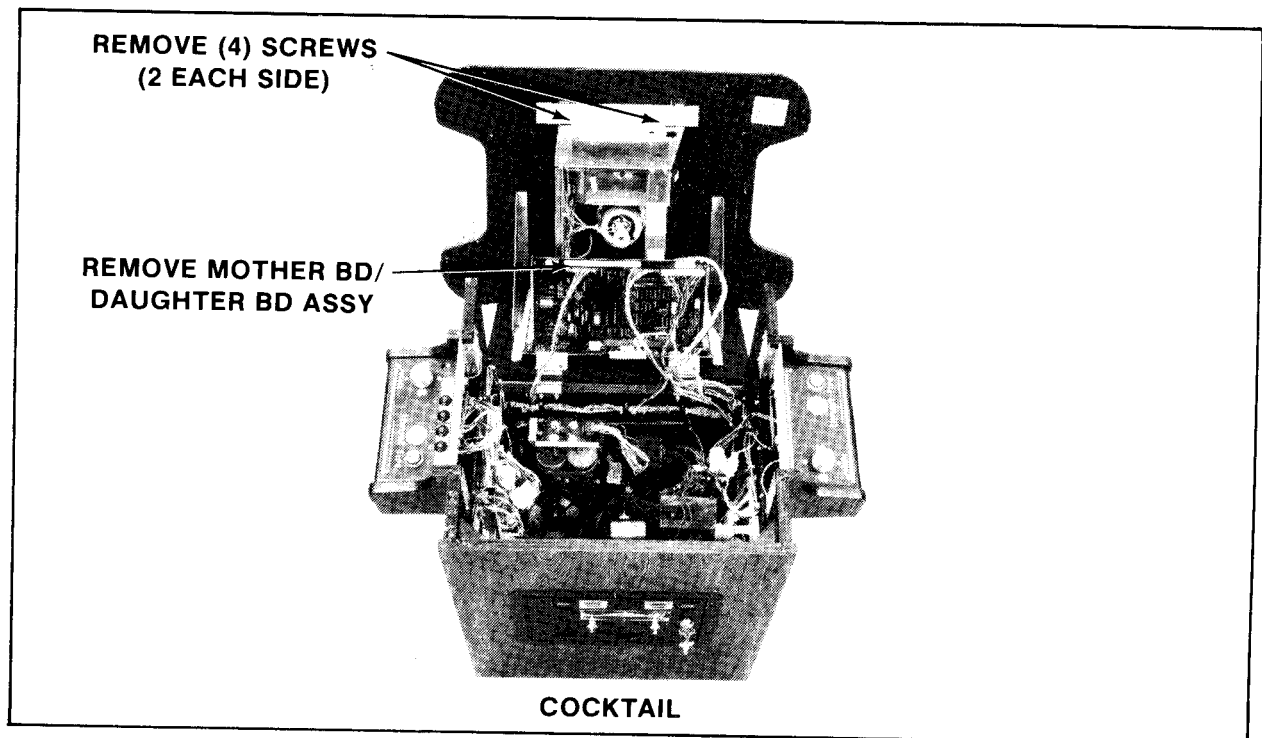

FIGURE 29
3. Cocktail Table model — See Figure 29.